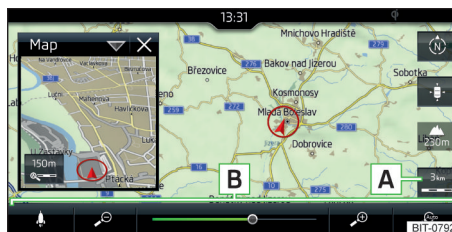
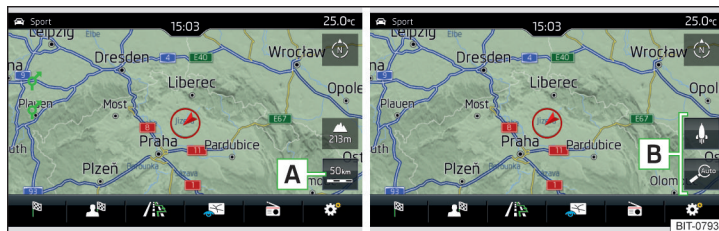

Fig. 211
Fig. 212 Infotainment Amundsen: Function surfaces for changing the map scale
- Tap on function surface  » Fig. 211 or » Fig. 212.
In area  » Fig. 211 or » Fig. 212, the function surfaces for changing the map scale are displayed.
- Tap on function surface **A** and set the desired scale with the slider or using the function surfaces \mathcal{P} / \mathcal{P} » Fig. 211 (applies to Infotainment Columbus)